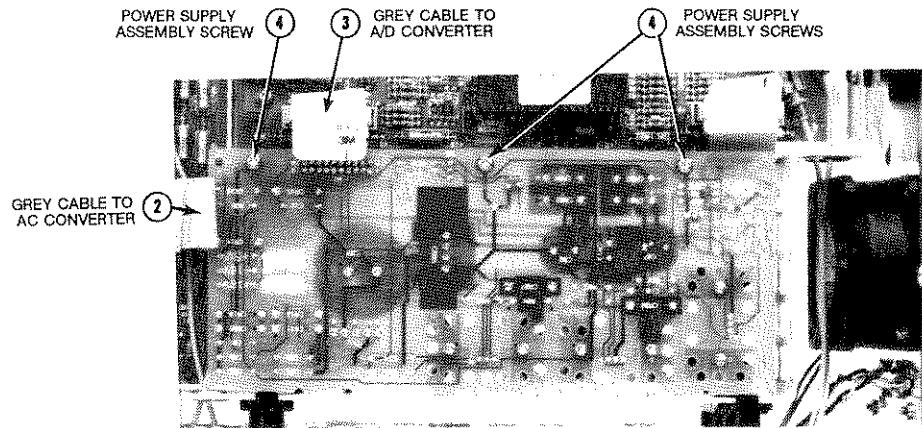

Figure 3-13. Inguard Power Supply Assembly Removal/Installtion
4. Refer to Figure 3-13 for the rest of this procedure.
2. Refer to Figure 3-13. Line up the Inguard Power Supply assembly with the slots in the chassis. Then push the board in.